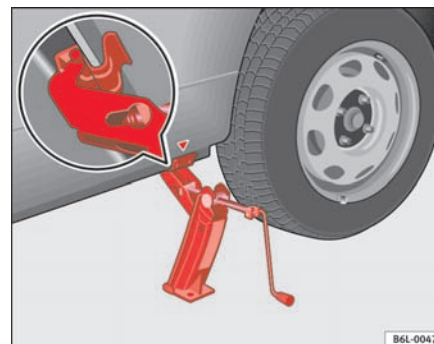

Fig. 124 Fitting the jack
- Align the jack so that the arm of the jack fits around the rib under the door sill and the movable base plate of the jack is flat on the ground ⇒ fig. 124.